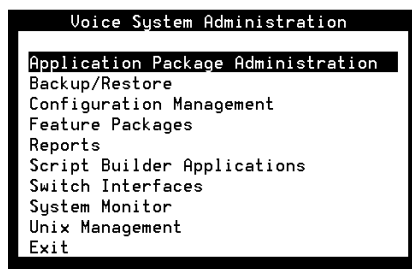

Figure 5-1. Voice System Administration Menu
The system displays the Voice System Administration menu (Figure 5-1).
1. Start at the Voice System Administration Menu (Figure 5-1) and select
13. Press **F6** (CANCEL) to return to the Voice System Administration menu (Figure 5-1).